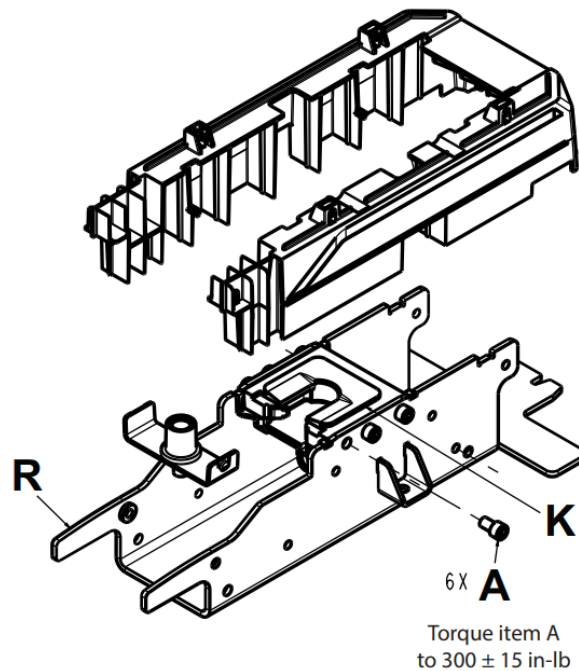

Figure 3 – Replacing the foot end interface assembly
2. Using a 1/4" hex wrench, remove the six screws (A) that secure the foot end interface assembly (K) to the foot end weldment (R) (Figure 3). Save the screws.